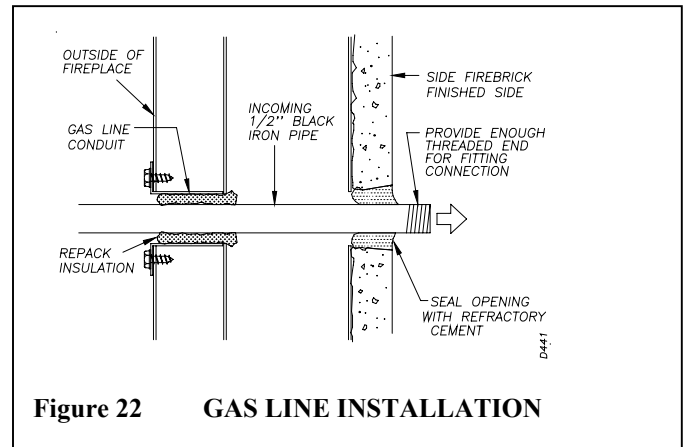

Figure 22 GAS LINE INSTALLATION
STEP 3: Run a ½ inch black iron gas line into the fireplace through the rear at gas line conduit sleeve (if using a raised platform, add height). Provide sufficient gas line into fireplace chamber for fitting connection (see figure 22).